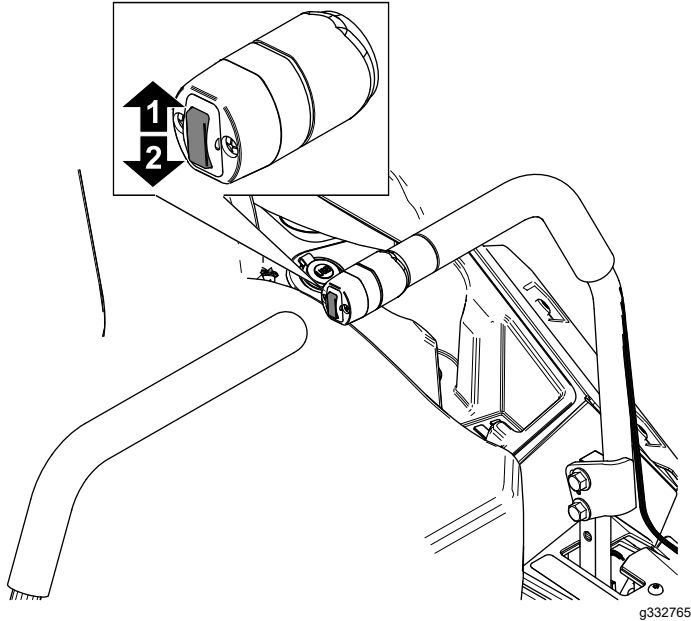

Figure 23
1. Push up on the deck-lift switch (Figure 23).